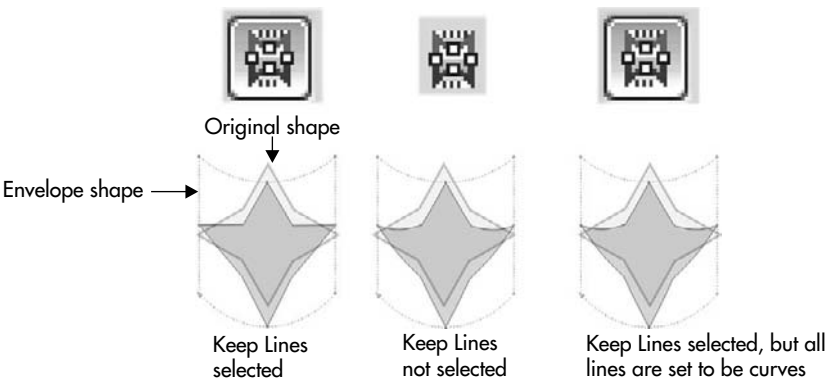

FIGURE 20-7 The Keep Lines option changes node positions but not any straight lines in the target object to match the envelope shape.
■ **Keep Lines** Using this option changes only the node positions in your object to match the envelope shape being applied, leaving any existing straight lines unaffected. If your object is already composed only of curved lines, choosing Keep Lines has no effect, as shown at right in Figure 20-7, which looks like Keep Lines has been turned off. While not selected (the default), all node positions and lines in your original object are reshaped to match the envelope shape—even if this means changing straight lines to curved lines.